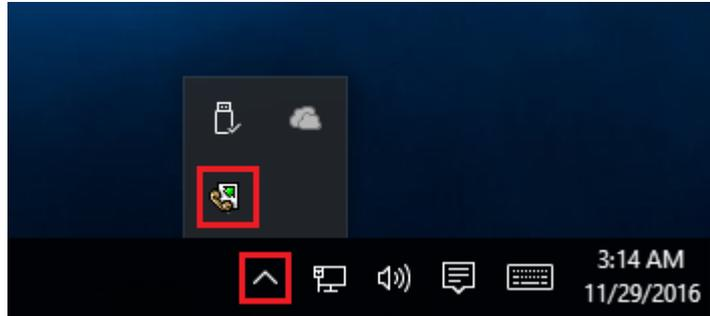

Fig. 23. Systray - panel near clock
- **Start in minimized state** - at start Log Monitor & Export will automatically minimize the program window to the taskbar or to the Systray (fig. 23).